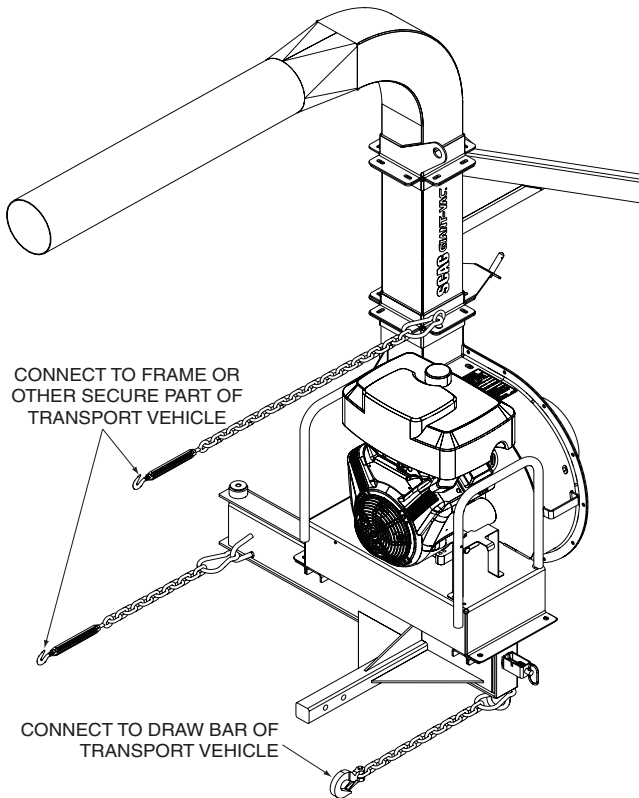

Figure 4-2. TLH Chain Installation
5. Connect the chains to the transport vehicle as shown. See Figure 4-2.
6. Connect the safety chains to the transport vehicle. See Figure 4-2.